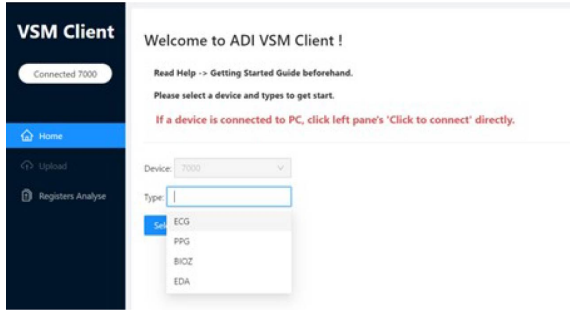

Figure 24. Select Function
5. From the **Type** dropdown menu, select one or more among the four functions: ECG, PPG, BIOZ, or EDA (see Figure 24). Click **Select** to enter the configuration interface.